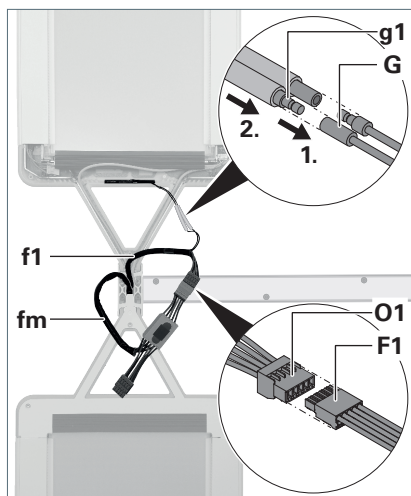

Fig. 21: Connecting the supply cables, connecting the aerial.
15. Connect the supply cable **f1** from the crossbar to the supply cable **fm** of the stranded wire set by inserting the socket strip **F1** into the pin strip **O1**, see Fig. 21.